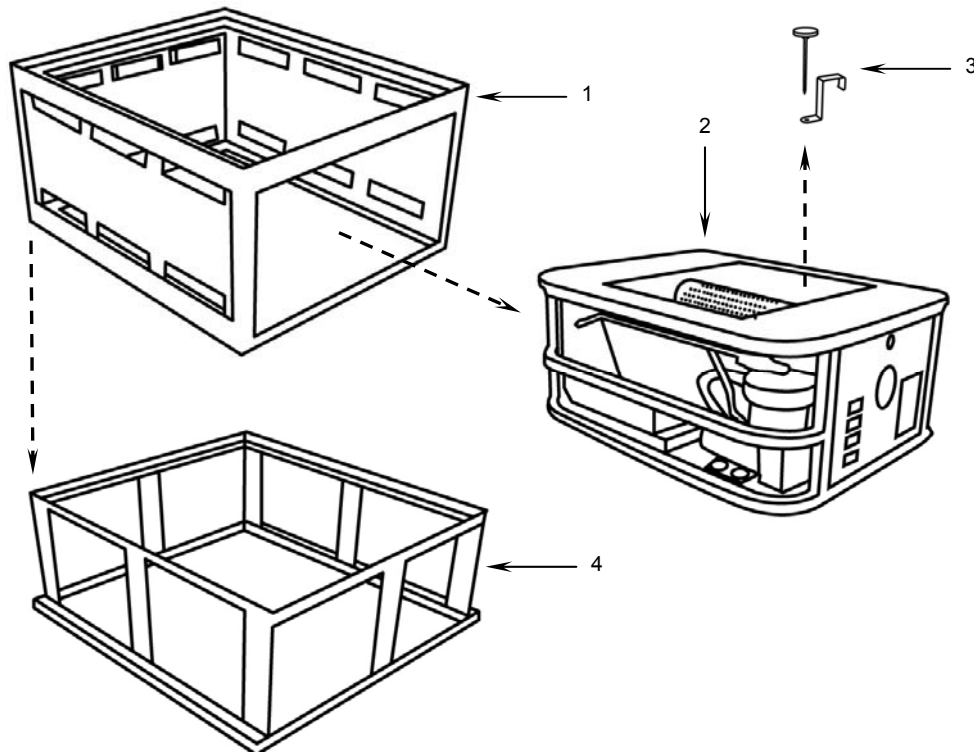

Figure 11. Burner Rack Installation.
- Lift each burner rack (**Figure 11, Item 1**) with its MBU (**Figure 11, Item 2**) out of the sinks.
- Remove the packed thermometer assemblies (**Figure 11, Item 3**) from their storage location on top of the MBUs and set aside.
- Remove the MBUs (**Figure 11, Item 2**) from the burner racks (**Figure 11, Item 1**).
- Place the one burner racks (**Figure 11, Item 1**) on top of each of the three base racks (**Figure 11, Item 4**).